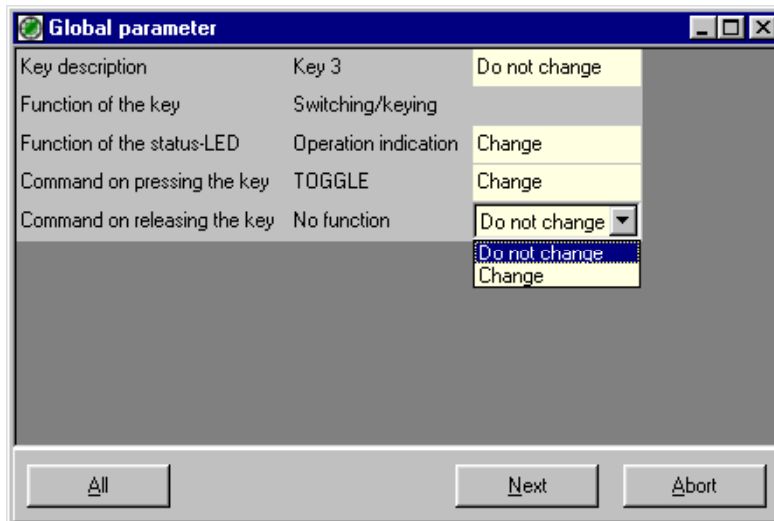

Fig. 4: Display and selection of global parameters to be adapted
4. The "Global parameter" dialog (see fig. 4) is started. The dialog field lists the global parameters of the selected branch that can be adapted. The parameters to be adapted can now be selected. Only the settings marked "Change" will be adapted in the further course of action. If the "All" button is selected, all global parameters will be changed together (all parameters either changed or not changed). After specifying the desired items, select "Next".